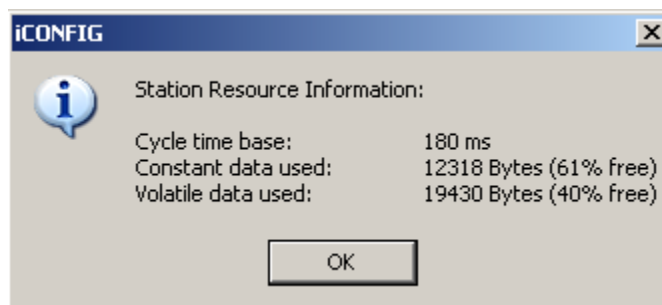

Figure 6-25 Station Resource Information
1. Click the **Information** button while in the station view. The Station Resource Information dialog displays. See Figure 6-25